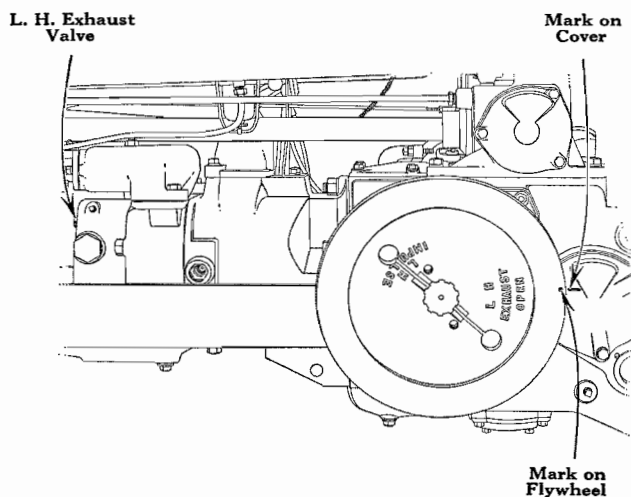

Fig. 16.
5. Mark on flywheel "L. H. Exhaust Open" should be in line with mark near top of cover on side of transmission case (See Fig. 16).